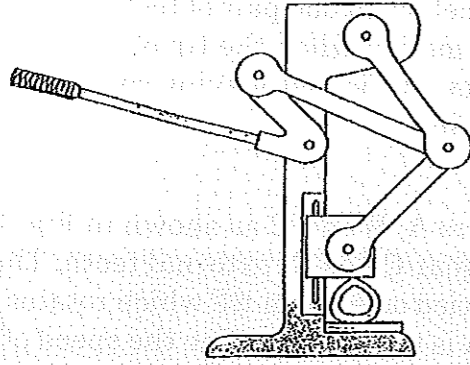

Fig. 16 (a)
16. a) Figure 16 (a) shows a mechanical press used to exert large forces to insert a small part into a larger one. Draw a kinematic diagram, using the end of the handle as a point of interest. Also compute the degrees of freedom.
- b) A cam is to be used for a platform that will repeatedly lift boxes from a lower conveyor to an upper conveyor. This machine is shown in figure 16 (b). Plot a displacement diagram and determine the required speed of the cam when the follower motion sequence is as follows :